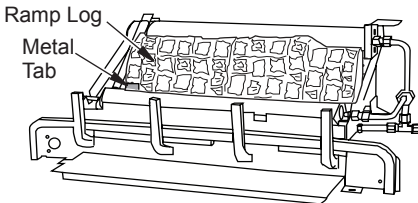

Figure 27 - Installing Fiber Ramp Log
1. Place fiber ramp log in center of chassis as shown in Figure 27. The fiber ramp log can be identified by the shape and much lighter weight when compared to the other logs. The log must sit flat on the black sheet metal and behind the left metal tab as shown. Make sure the side marked "BOTTOM" is setting down.